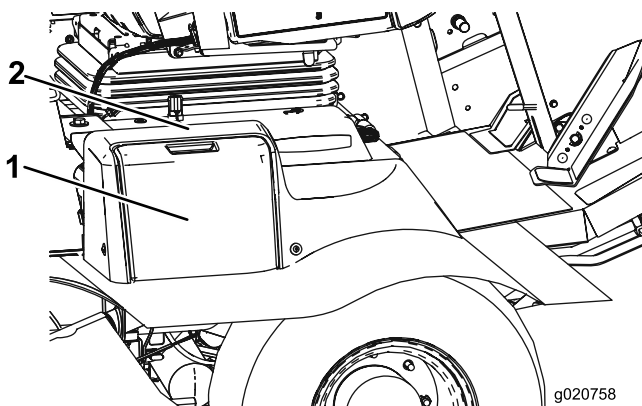

Figure 52
1. Open the battery cover (Figure 52). on the side of the shroud.
Note: Press down on the flat surface above the battery cover to ease cover removal (Figure 52).